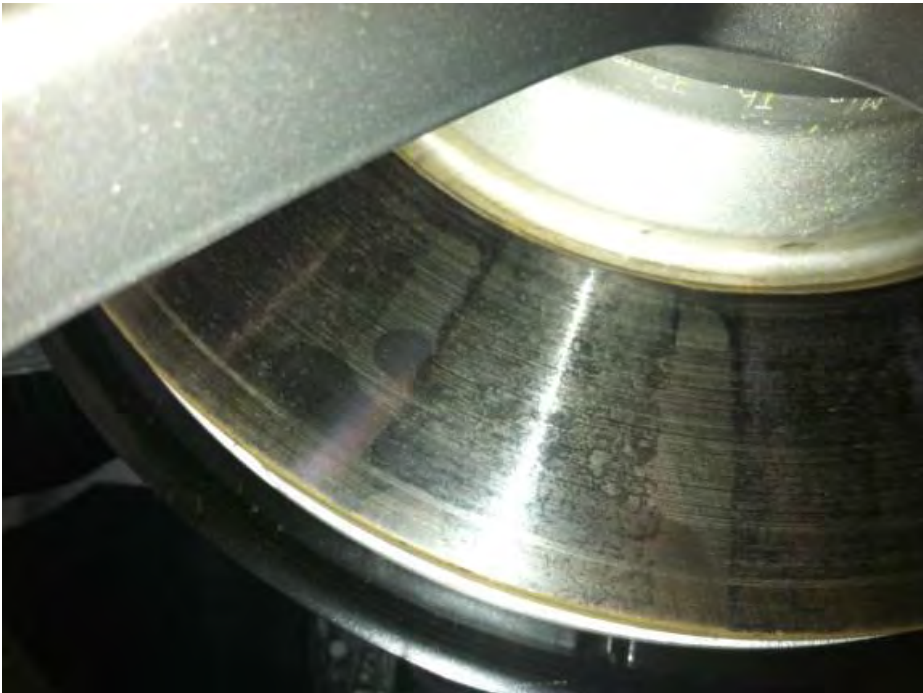

Figure 3
7. There is chemical contamination on the braking surface of the disc due to a wheel or tyre cleaner being sprayed directly on to the disc (Figure 3).